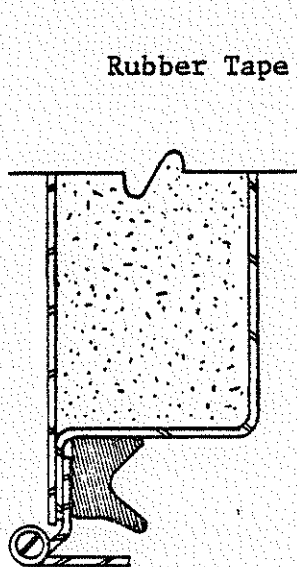

Figure 1
7. Apply the seal assembly to the door. Make sure that all sealing surfaces are in perfect contact and seal is oriented as in Fig. 1 and 2.